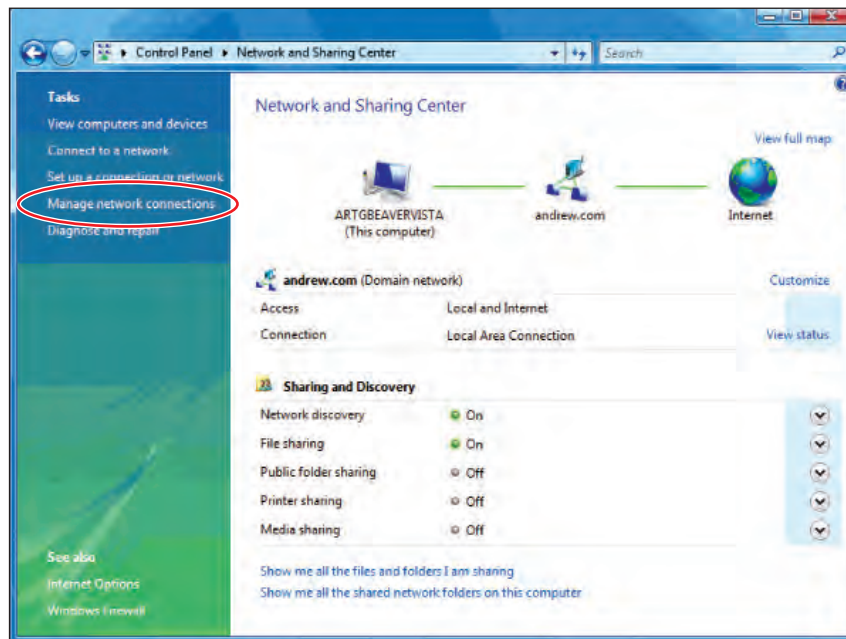

Figure B-5. Selecting Manage Network Connections.
3. Select **Manage Network Connections** link (Figure B-5).